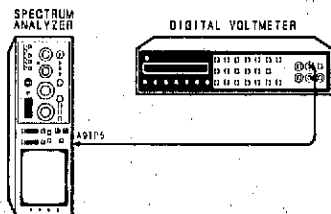

Figure 5-10. Analog Deflection Adjustments Test Setup
2. Reconnect power cord, set LINE switch ON, and connect equipment as shown in Figure 5-10. Set controls as follows: